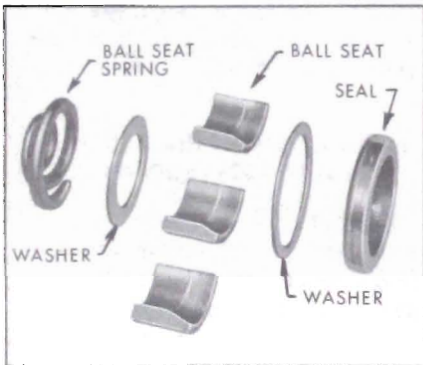

Figure 6-63—Ball Seat Assembly
2. Install spring, small end first. Install seat washer, ball stud seats, and seal washer. See Figure 6-63.